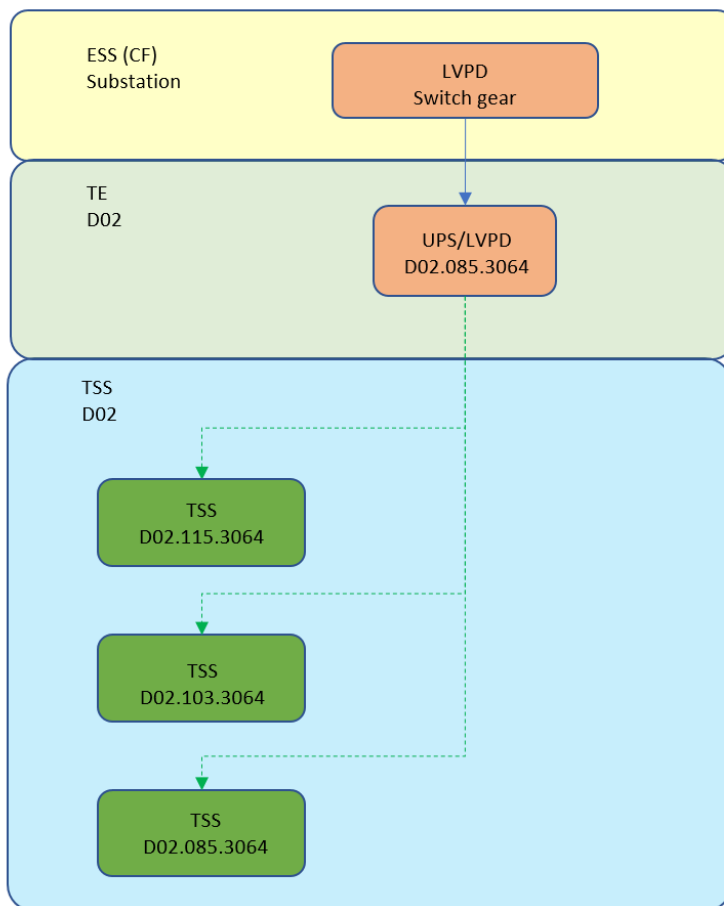
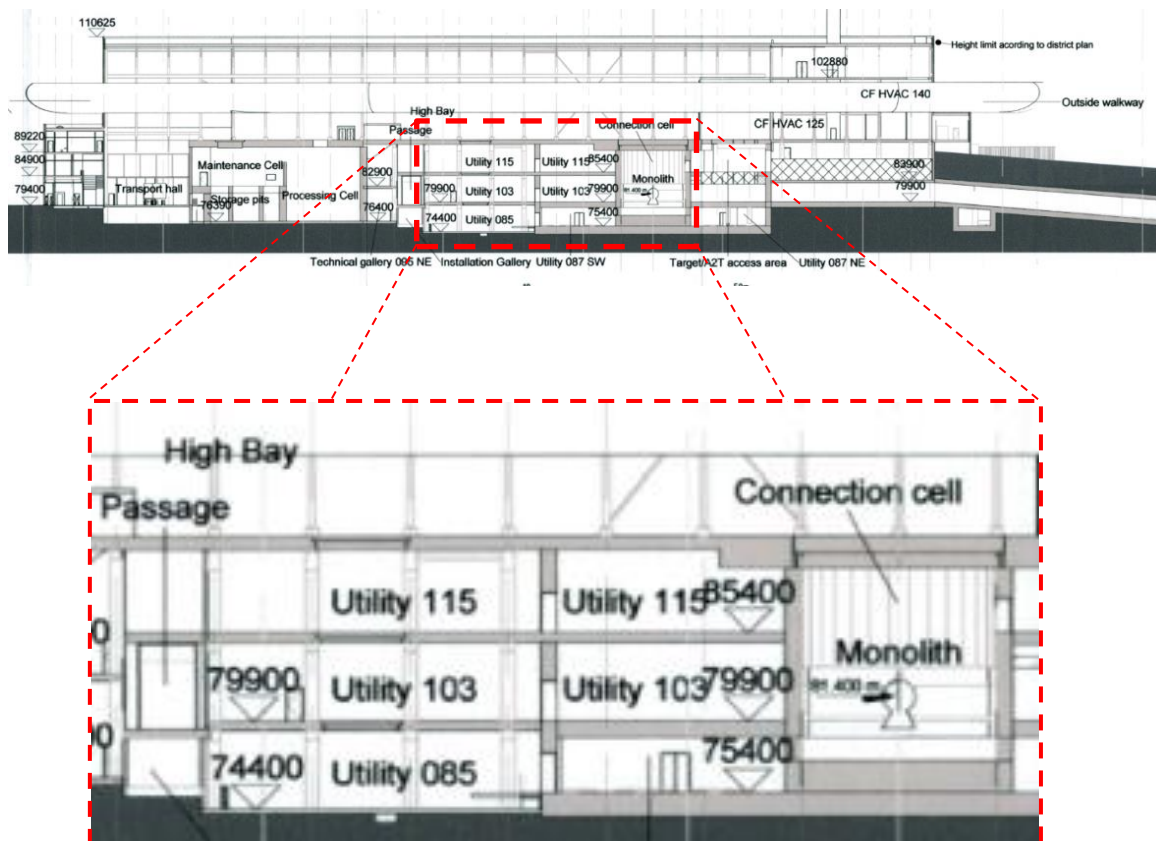
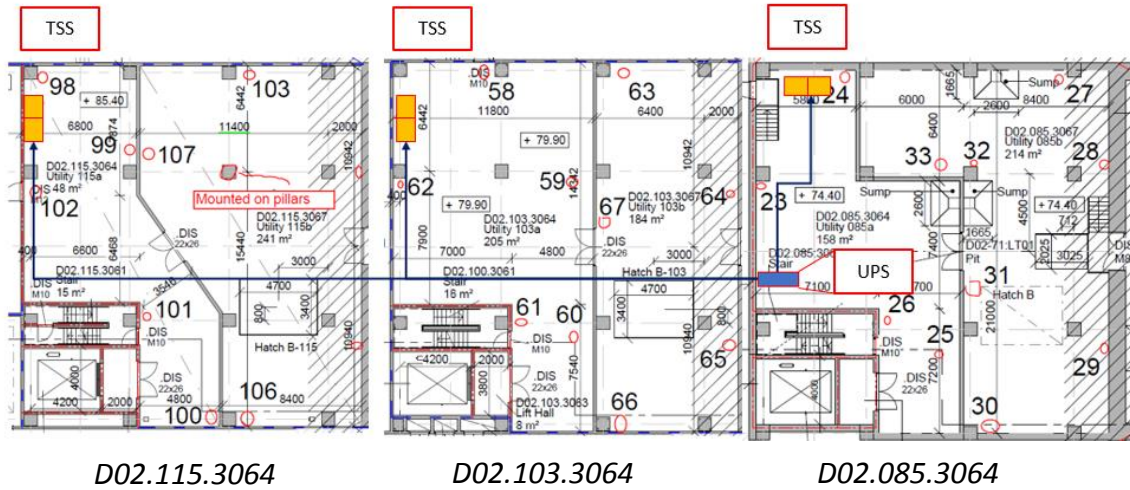

Figure 1 Overview of electrical power supply interface between TE and TSS
Figure 2 Target utility area of the D02 building.
Figure 3 Location overview of the TE UPS and the TSS on the three levels in the Target utility block.
An overview of the electrical power distribution supply interface is described in Figure 1.
- the Target utility area, see Figure 2, Figure 3 and Figure 4
The TSS cabinets are located in rooms D02.085.3064, D02.103.3064, D02.115.3064 (see Figure 3), D02.100.3016 and D02.110.3016 (see Figure 5).
The TSS instruments are located in rooms D02.115.3067, D02.115.4003, D02.115.4001 (see Figure 3 and Figure 4), D02.103.3064 and D02.085.3064 (see Figure 3).
Interface	<p>TE shall provide UPS Power distribution to each of the TSS I&amp;C cabinets in the target utility block (see Figure 1 and Figure 2) with the following:</p> <ul style="list-style-type: none"><li>• 400/230V 50Hz TN-S system with separate neutral conductor and protective conductor.</li><li>• UPS supply circuit overcurrent protection 16A. Selectivity shall be based on that rated current to TSS internal sectional overcurrent protection is a 10A circuit breaker characteristic C.</li><li>• UPS minimum capacity time 15 minutes.</li><li>• UPS feeder shall be supplied with Grid power (GP) and Back-up power (BP).</li></ul> <p>TSS shall provide:</p> <ul style="list-style-type: none"><li>• Maximum three I&amp;C cabinets to be supplied from the TE UPS.</li></ul> <p>The responsibility between TSS and TE is defined in Table 1.</p>
Interface	TE shall provide equipotential protective bonding to the TSS I&C components in the Target building (see Figure 1 - Figure 6) according to Table 1.
Interface	TSS shall provide protective bonding of TSS I&C components in the Target building (see Figure 1 - Figure 6) according to Table 1.